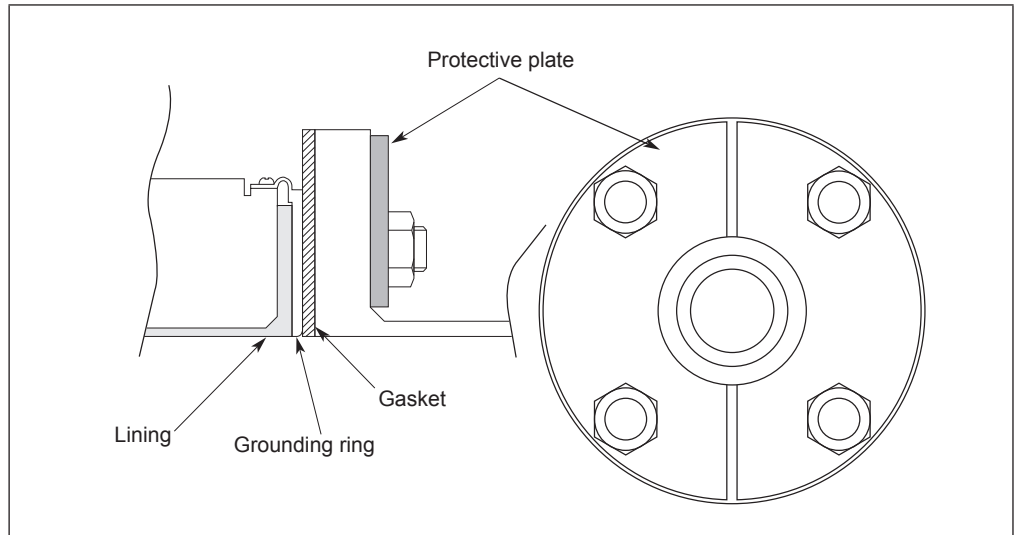

Fig. 2-15. Installation using SUS material grounding ring (with protective plate)
- Protective plate: Use the protective plate if bolt tightening at the specified torque threatens to warp or damage the PVC pipe. See Fig. 2-15. for an illustration of the protective plate.
Install the protective plate between the outer side of the PVC flange and the detector, as shown in Fig. 2-15. The protective plate protects the PVC pipe from deformation or damage when secured at the specified torque. The torque level is unrelated to the pipe or grounding ring material. See Table. 2-1 on page 2-8 for the appropriate torque.